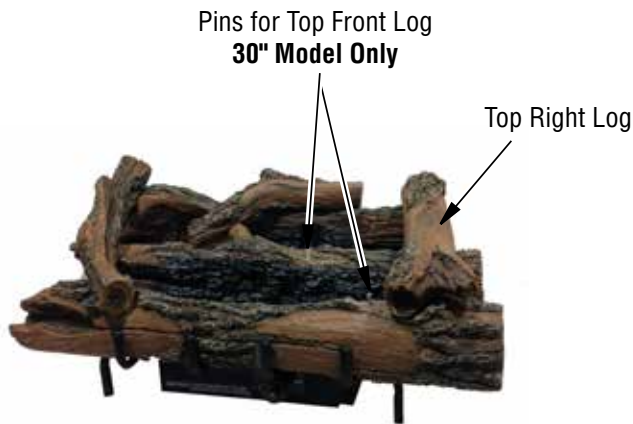

Figure 40 - Placing 24/30" Top Left Log
5. Place top left log as shown in **Figure 40**. This log will fit on the matching pin on the rear bottom log and resting over the flat recesses on the bottom middle log and bottom front log.